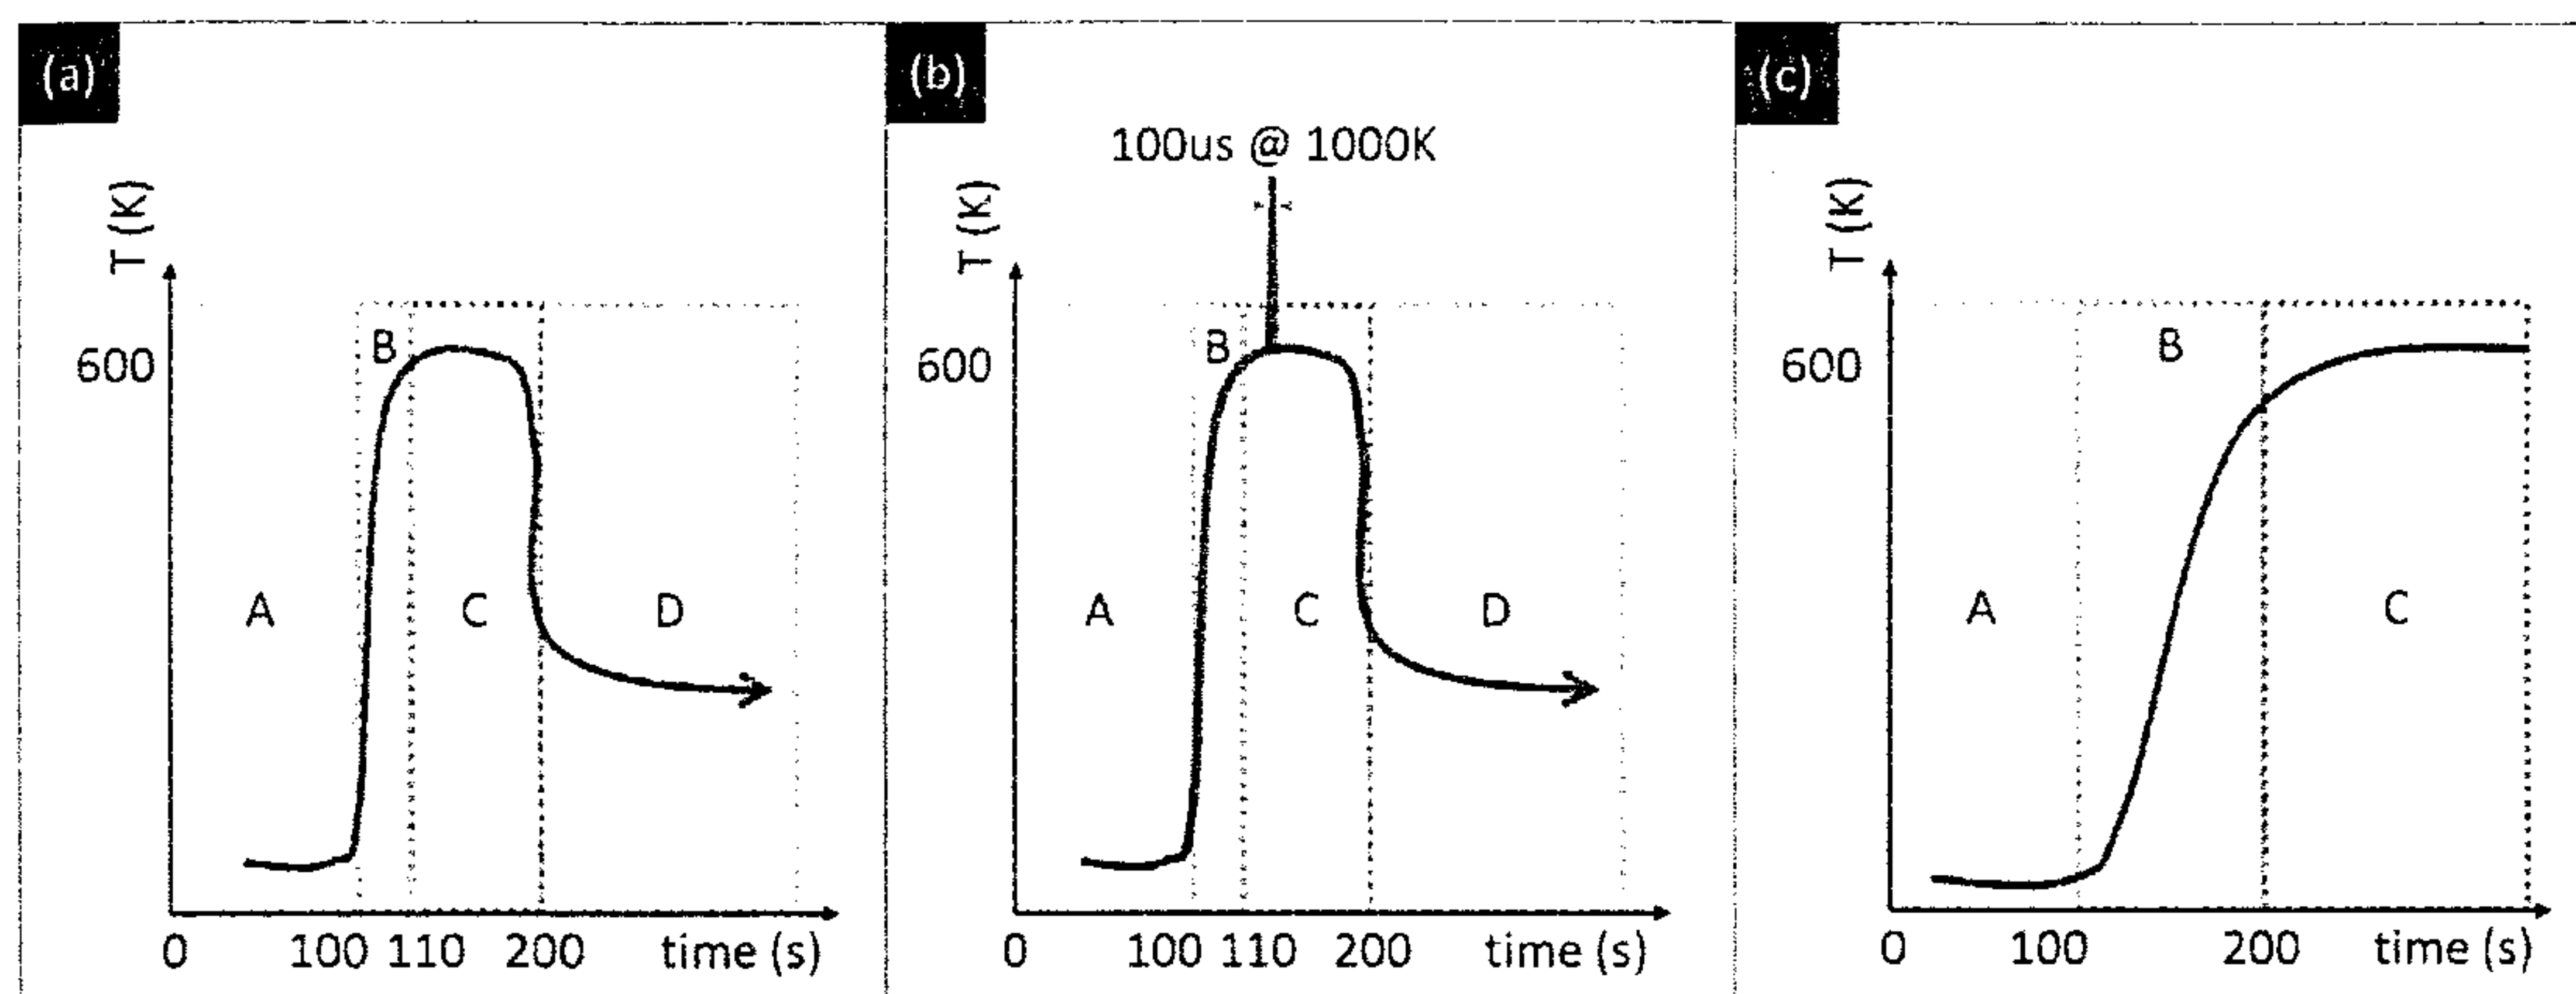

Figure 2. The proposed thermal budgets for growing the MSiX.
1. Consider you are working as a principle engineer for transistor module development at tsmc and are now in a weekly meeting for project assignment. A topic is assigned to you for the development of source / drain to metal wire connection. Metal silicide is a suitable candidate for leakage control in this connection. You are in charge of growing the metal silicide ( $MSi_x$ ) ultra-thin film in the thickness of 10 nm atop surface of source / drain SiGe epitaxy. Self-aligned technique with subsequent annealing is a proper method for building the  $MSi_x$  thin film. (1) Please index the crystal phases of  $M_5Si_3$ ,  $MSi$ ,  $M_5Si_4$ ,  $MSi_2$ , and amorphous-interlayer at the noted regions in the following film scheme (**Figure 1b**) and explain the mechanisms for growing these phases (20%); (2) The heterojunction barrier high is an important thin films property for leakage control of transistor. Please state the possible crystal defects with locations that affecting the heterojunction barrier high of this  $MSi_x$  film scheme (6%); (3) **Figure 2** compares three types of the annealing process for growing the  $MSi_x$  (**Figure 1a** → annealing → **Figure 1b**) that offered by your sponsor. Please select the proper one and explain the microstructure transformation of the regions in the selected case (4%). <30/100>